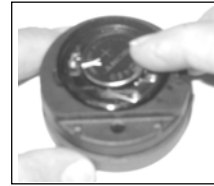

Fig. 73 -Inserting Battery
- Slide a new 3 volt type CR2450 Lithium Battery, negative (-) side down into the Battery Cavity. Slide it in from the right side and ensure that it slides under the contact clip on the left rim of the cavity (Fig. 73).